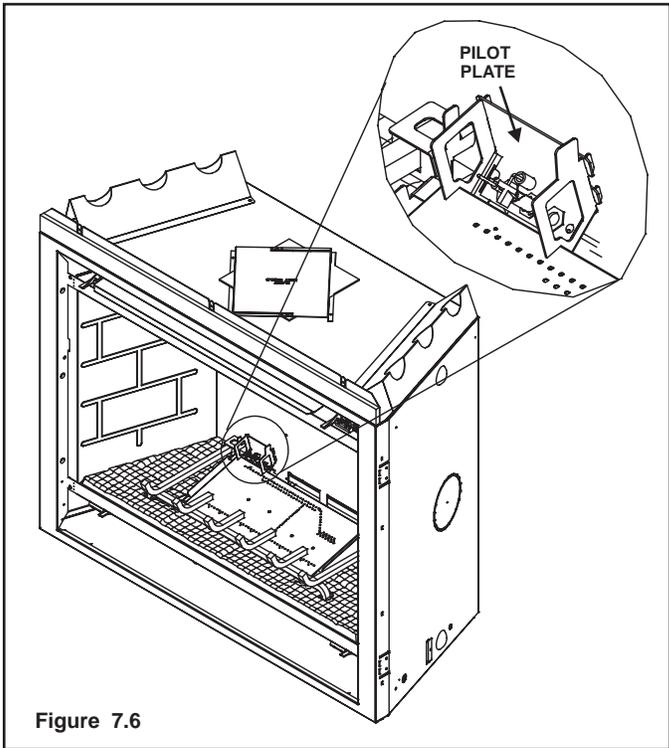

Figure 7.6
**Note:** Ensure pilot plate is in place. This will ensure pilot stability (see Figure 7.6)